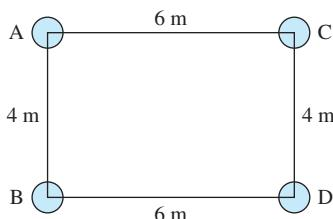

FIGURE P9.46 Single-phase transmission line configuration.
- 9.46** (H) A single-phase, 60-Hz power will be transmitted through the transmission line given in Figure P9.46. Each subconductor's radius is 10 cm. There are two configurations, the first one is setting subconductors A and B as a bundle, and C and D as another bundle; the second is setting subconductors A and C as a bundle, and B and D as another bundle. Which should be selected to achieve smaller inductance?